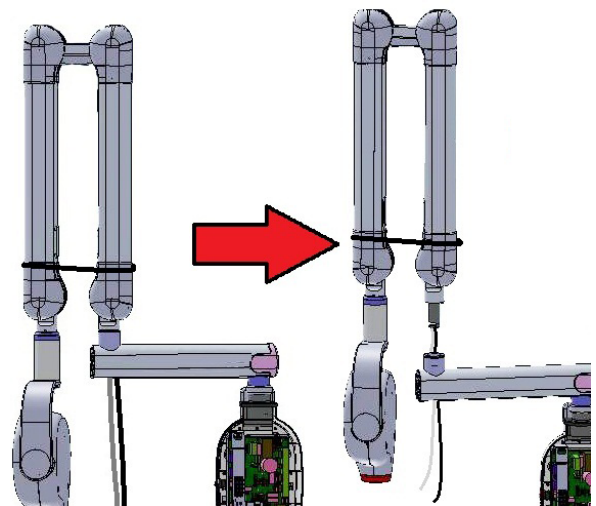

Figure 72
- Lock the scissor arm in folded position by tying with a knot or using a long cable tie as shown in Figure 72 .
- Hold the scissor-arm firmly with both hands and slowly lift it simultaneously pulling the cables out of the straight arm carefully as shown in Figure 72 .